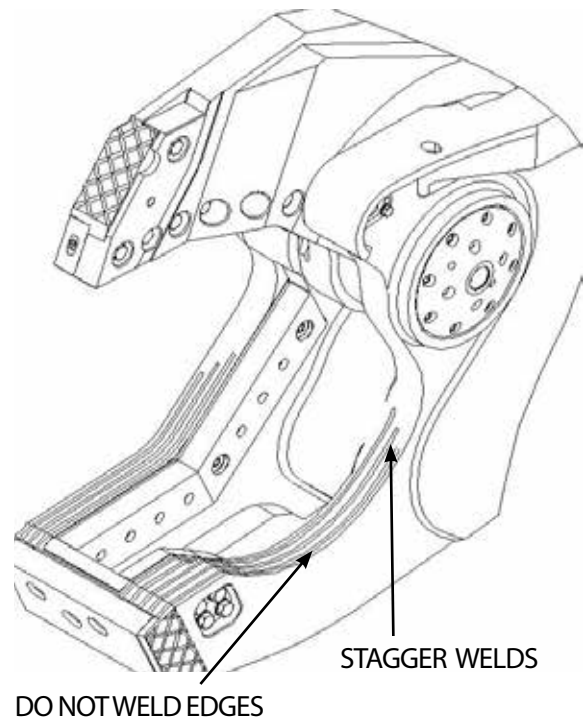

FIGURE 5-38
- Stagger the ends of the welds and do not end a weld adjacent to a blade bolt hole. See Figure 5-38.